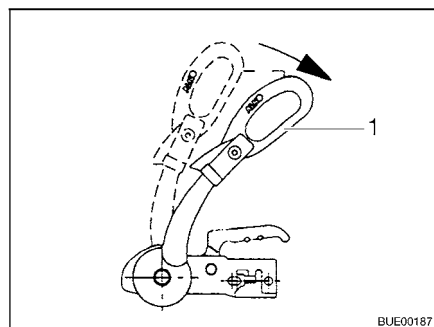

Fig. 195 Stabilising handle
- Open the stabilising handle (Fig. 195,1).